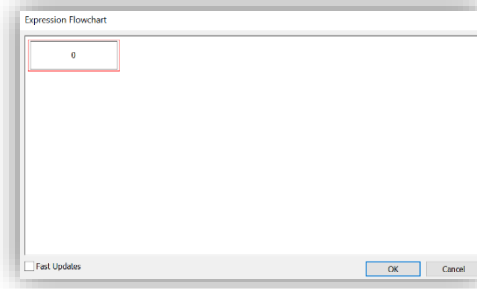

Figure 41. Flowchart dialog box to animate colour of pump.
- Right click on *pump* symbol>select *Animations*>Under *PolyFill* select *Fillcolor*> Select *Flowchart* button on left hand side. Figure 41 shows dialog box that opens.